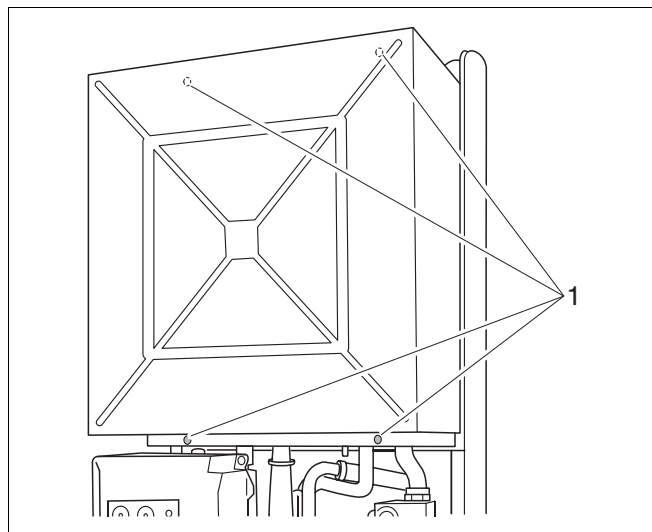

Fig. 6 Remove ventilation cover
- Unscrew the four screws at the top and bottom of the ventilation cover (fig. 6, item 1) and remove the ventilation cover.